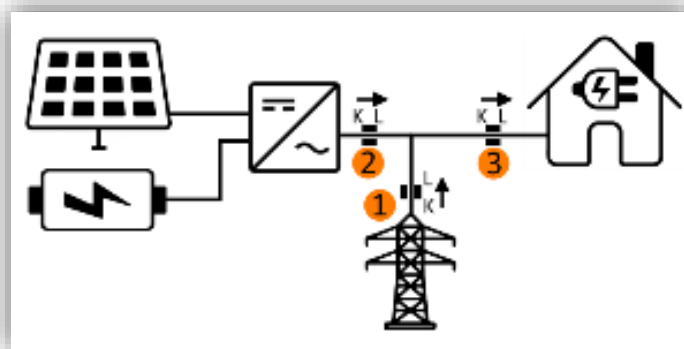

Figure 156. Installation diagram with solar panels and battery
This section defines the points of the installation where the measurements must be taken in order to have a correct operation of the global tab of the energy monitor. Figure 156 shows the diagram of an installation with solar panels and battery:
- **Installation without solar panels or battery:** only point 1 shown in the diagram in Figure 156.